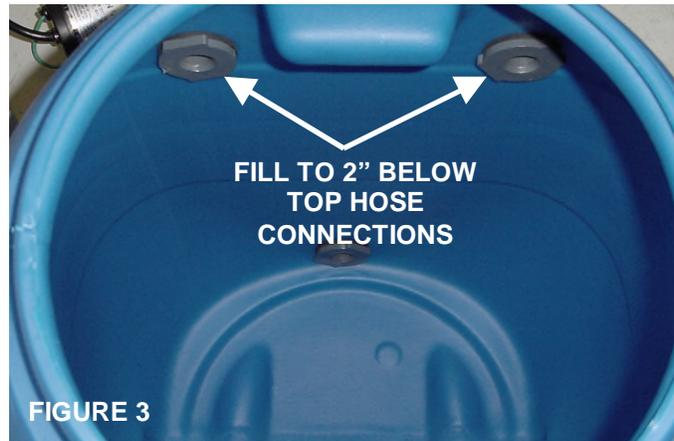

FIGURE 3
1. Add 10 gallons (~2 inches below the top hose connection) of clean water to the CIP drum (FIGURE 3). RO+ product water or deionized water is recommended if available. Water with a minimum temperature at or near 86° F will provide maximum effectiveness for the high pH cleaner.